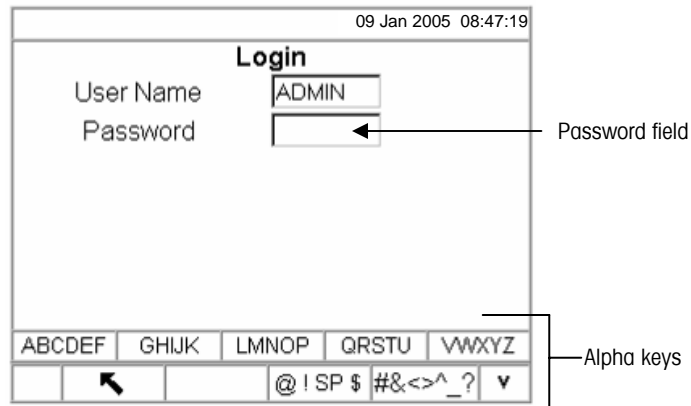

Figure 3-2: Login Screen (Alpha Keys)
2. Press the ENTER key. The softkeys change to alpha keys (see Figure 3-2).